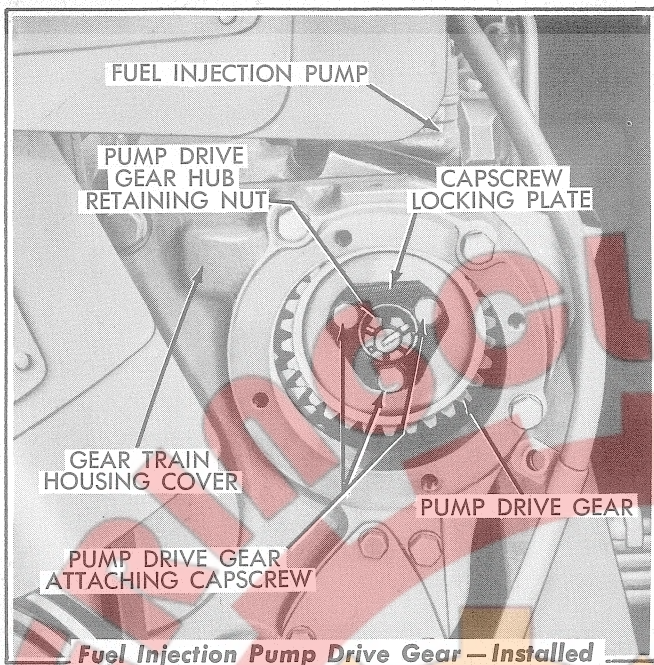

FIG. 23
- i. Remove the pump drive gear access cover. Remove the three (3) pump drive gear attaching capscrews and remove the capscrew locking plate (Fig. 23). Remove the pump drive gear.
- c. Install the "O" ring gasket in position in the pump mounting flange. Install the fuel injection pump in position on the engine and secure the pump to the engine with three (3) pump mounting stud nuts and lockwashers.
- d. Refer to Fig. 23 and install the pump drive gear in position on the pump drive gear hub. Install the capscrew locking plate and start the pump drive gear attaching capscrews but do not tighten at this time. NOTE: The attaching holes in the pump drive gear are elongated so that the pump drive gear hub can be turned slightly to properly time the fuel injection pump.